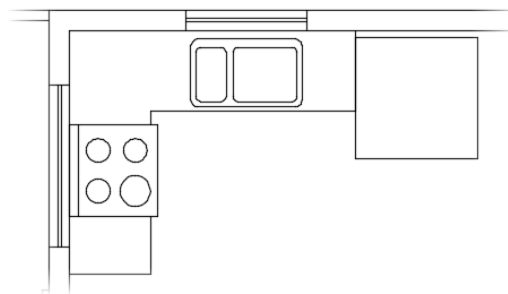

FIGURE 7.48: Zooming in to see the revised window blocks with double-glazing
- Zoom in to a closer look at the kitchen in order to view some of the modified window block references (see Figure 7.48).